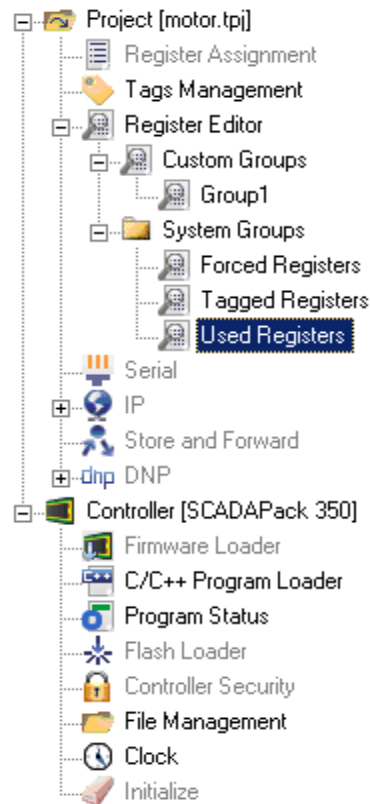

Figure 23: Used Registers in Tree View
- Select **Used Registers** in the Tree View (See Figure 23)